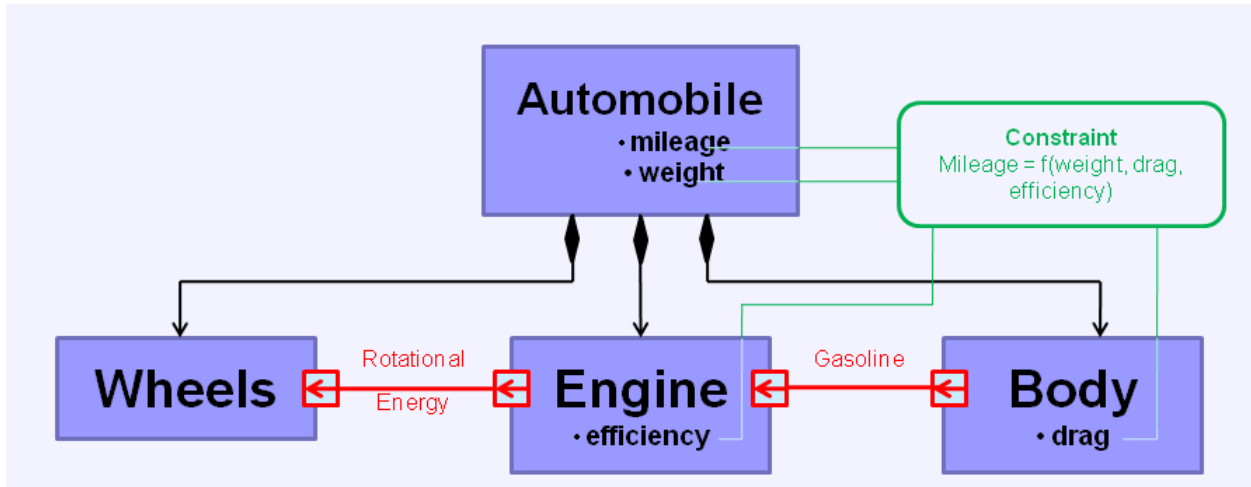

Figure 1.1 Structure diagram relationships
With respect to structure diagrams, there are three important types. These are illustrated in Figure 1.1.
- Block definition diagrams (BDD), which describe the organization of the structure, the hierarchy of system, subsystems, and all the elements that make up the system. In Figure 1.1, the Body, Engine, and Wheels are elements that belong to the object Automobile, the ownership relationships shown in black. Our tutorials usually begin by creating a BDD.
- Internal block diagrams (IBD), which describe qualitative flows between elements. In Figure 1.1, gasoline flows from a tank in the Body to the Engine, as shown in red. In the tutorial CommNetwork, we use an IBD to keep track of message traffic channels between stations, but IBDs do not affect parametrics directly.
- Parametric diagrams (PAR), which describe quantitative relationships between properties of the elements. In Figure 1.1, mileage, which is a property of Automobile, is a function of the drag of